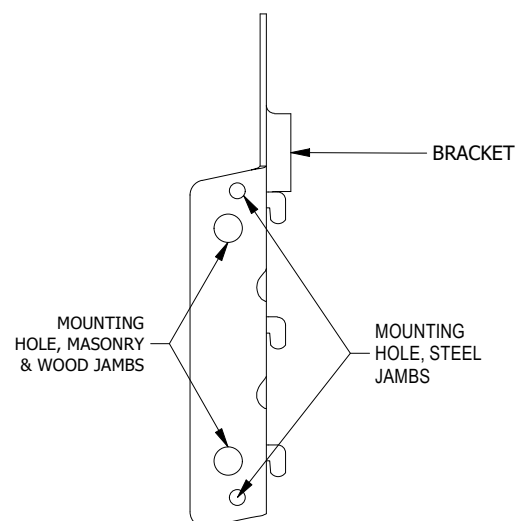

FIGURE 9: FASTENER PLACEMENT
- The appropriate fastener must be installed at each hole location in brackets and guides. **See figure 9**.